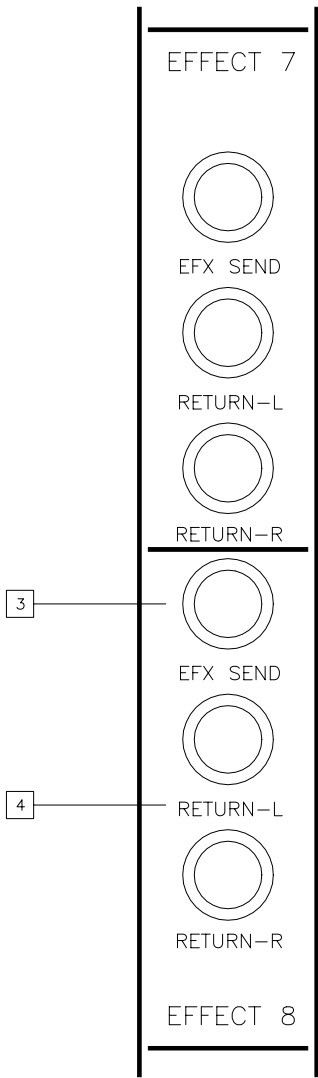

Figure 8. Effects Send and Return Connectors
Refer to Figure 8 for location of items 3 and 4.